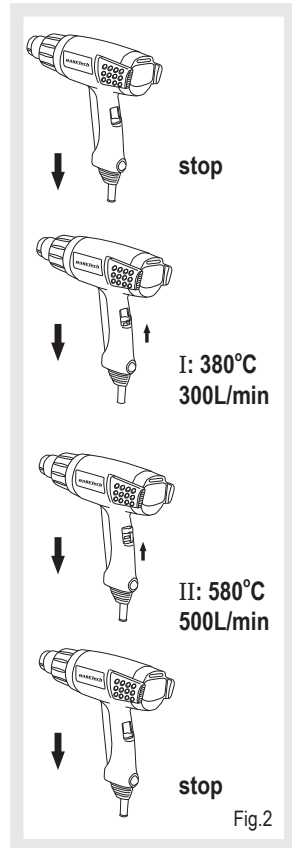

Fig.2
- Push the On/Off switch (C) to position I or II. With the On/Off switch (C), you can select between different blower level and temperature combinations. (Fig. 2)